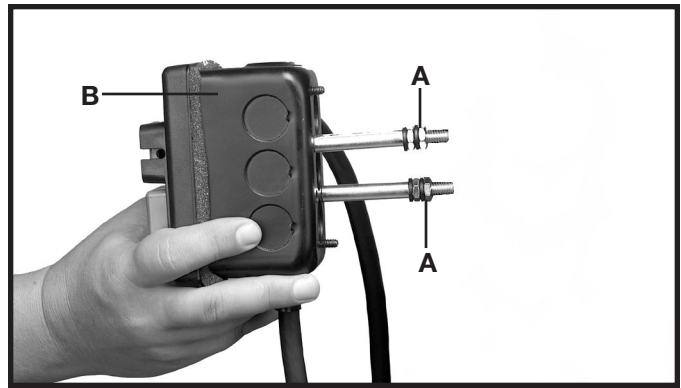

Fig. 34
1. Remove the two outer hex nuts and lock washers (A) Fig. 34 from the switch box (B).